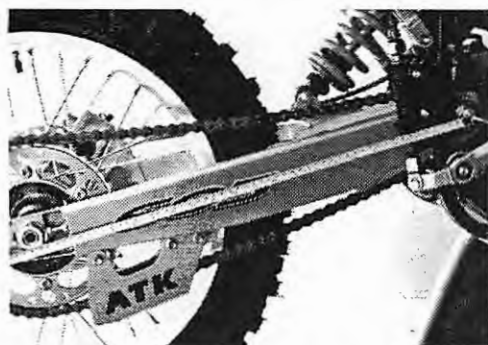

Figure 4.22
4. The best method for checking the rear wheel alignment is to measure the distance from the center of the swingarm pivot to the center of the axle using a tape measure. The rear wheel is aligned when the distance from the swingarm pivot to the rear axle is identical on both sides of the motorcycle. Fine tune the alignment of the rear wheel by turning the adjuster screws. (Figure 4.22)